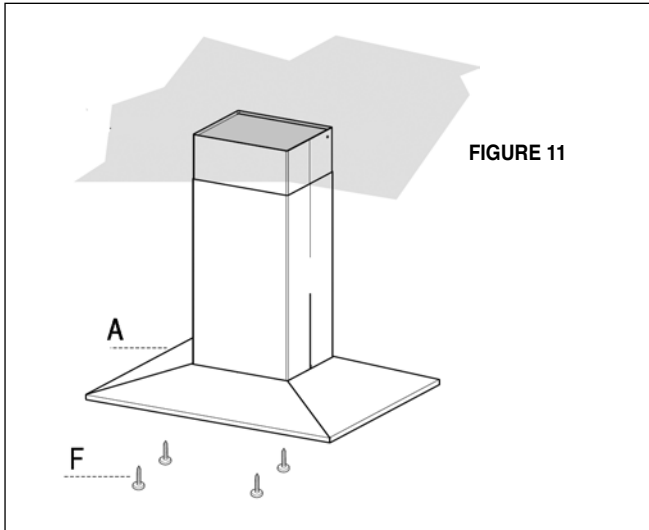

FIGURE 11
4. From below, attach the CANOPY SECTION (A in FIGURE 11) to the assembled chimney support using the four bolts provided (F in FIGURE 11).